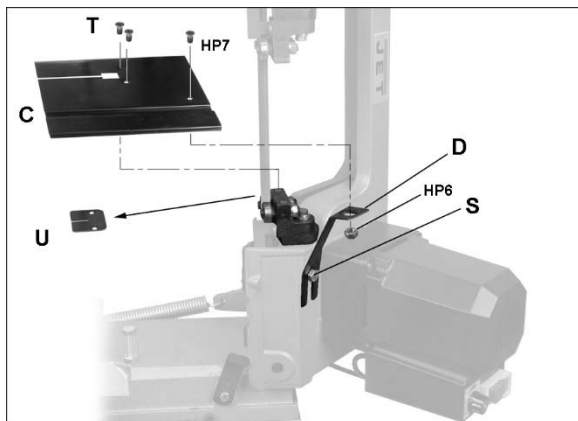

Figure 5-6
3. Loosen bolt (S, Figure 5-6) just enough to slide stand (D) behind bolt. Tighten bolt just enough to hold stand in position.
4. Remove two flat head screws (T) and bearing guard (U). [Note: Bearing guard (U) must be reinstalled when returning to horizontal mode.]